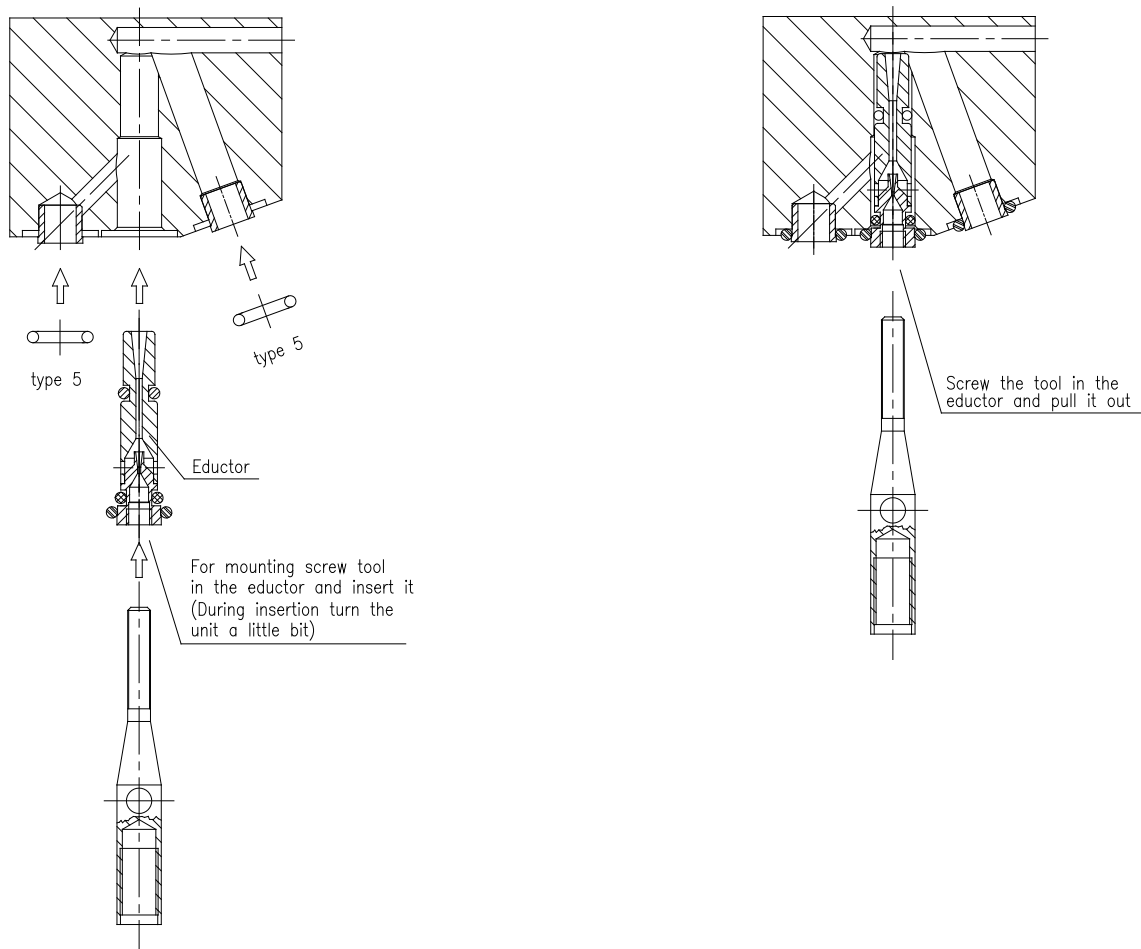

Figure 18 Bypass block with eductor and O-ring seals
Figure 18 shows the position of the eductor and the O-ring seals in the bypass block
- Check the o-rings and change them if necessary (see figure 18 and 19)